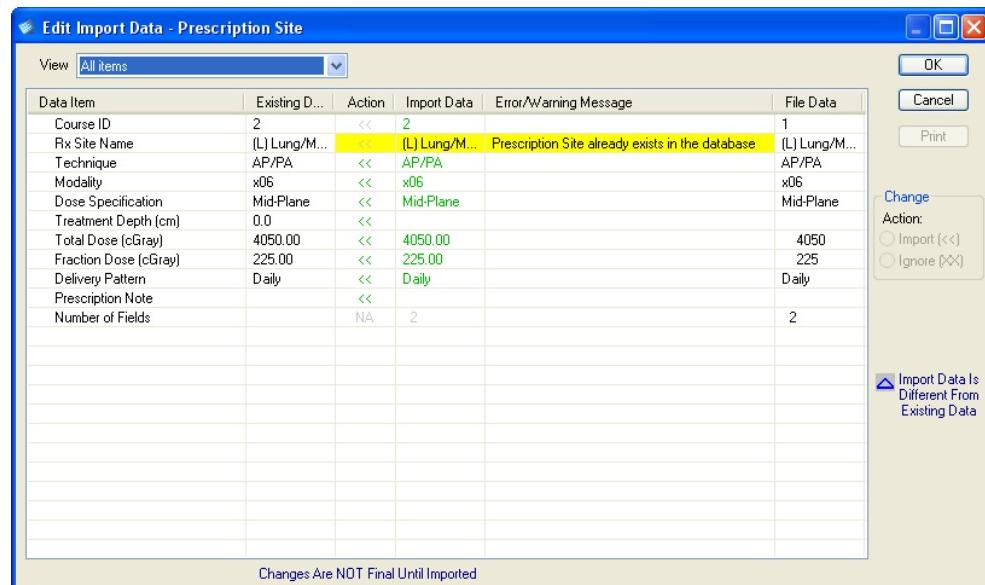

Figure 10: Edit Import Data Window – Fixed Data Item
7. Type another value for the data item, then click in the window. Note the text appears in green to indicate that you can import the date without a conflict as shown in Figure 10.